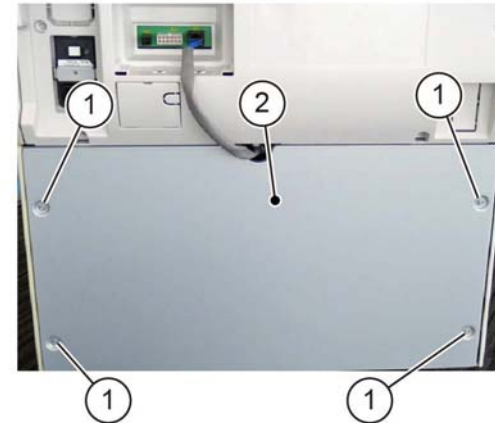

Figure 1 Rear cover removal
1. Remove the rear cover, Figure 1:
- a. Remove four screws (1).